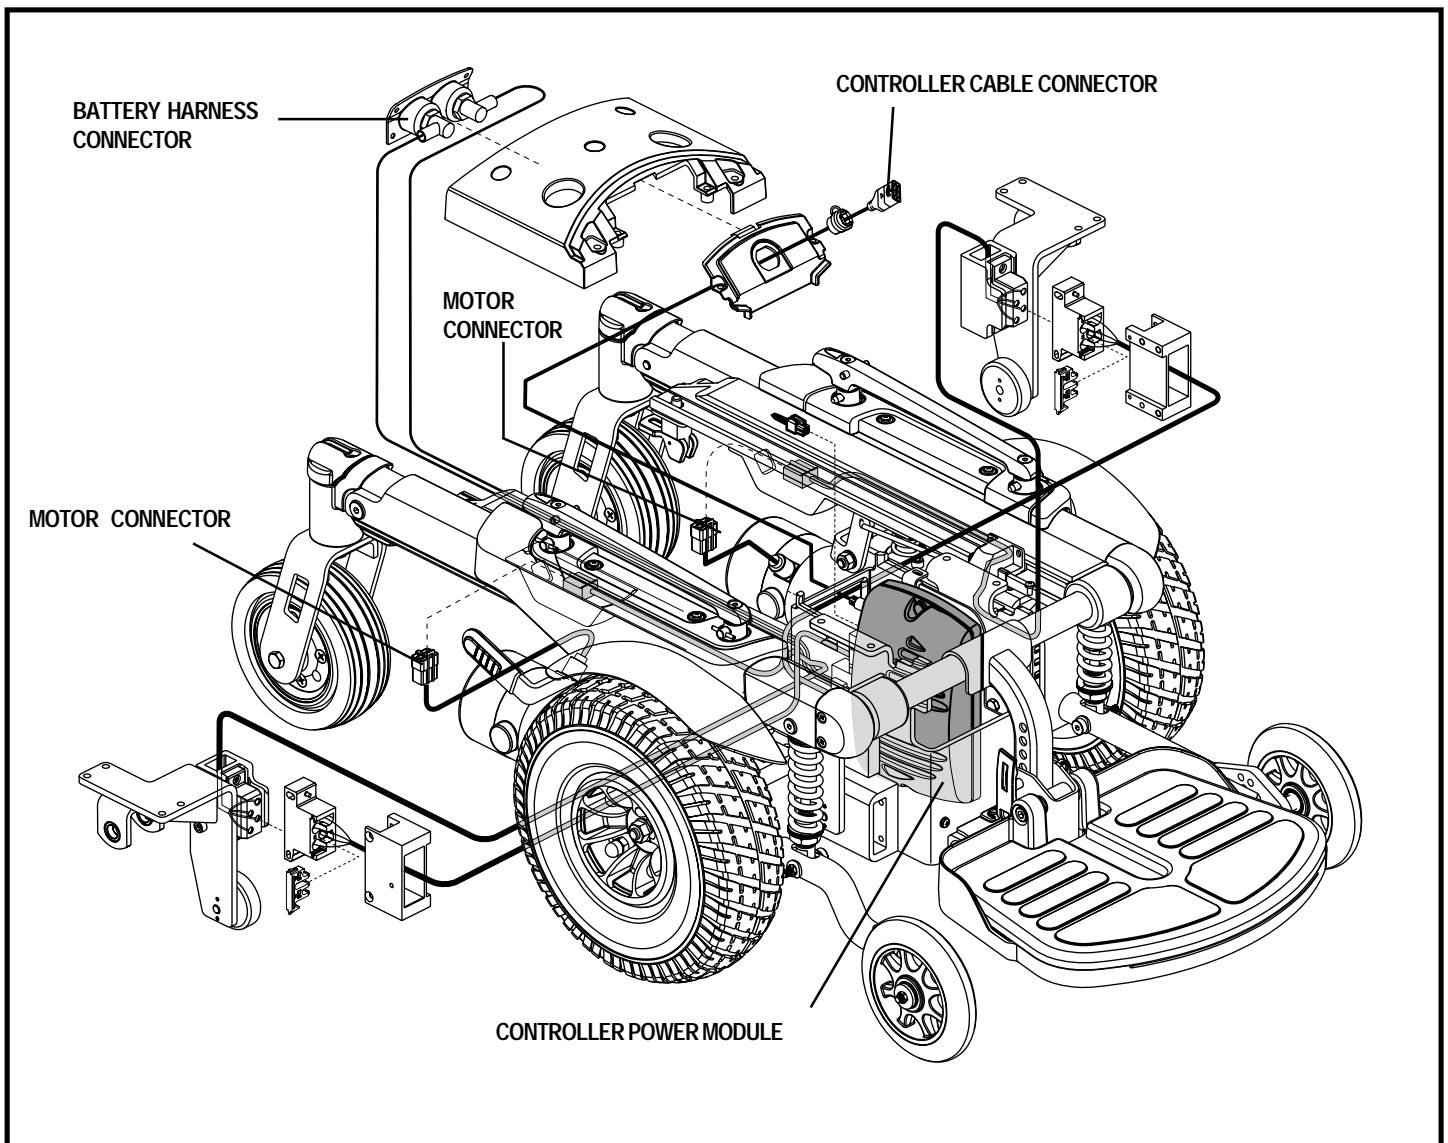

Figure 7. Quantum 1107 Electrical Components
9. Plug the controller into the connector on the power base. See figure 7.